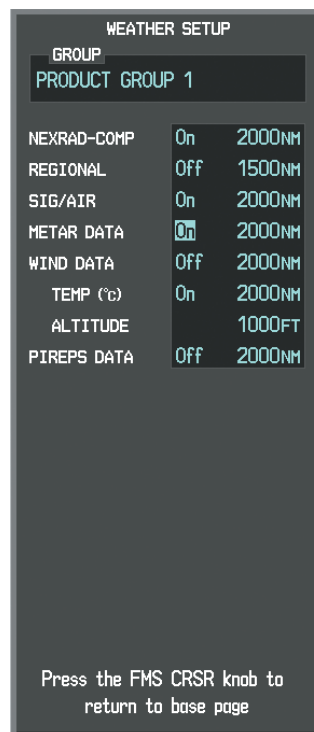

Figure 6-101 Weather Data Link (FIS-B) Page Setup Menu
- 4) Turn the small **FMS** Knob to select 'PRODUCT GROUP 1', and press the **ENT** Key (Figure 6-101).